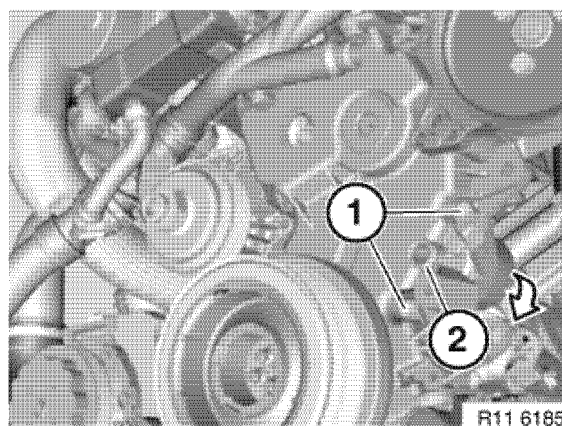

Figure 11-5
9. Remove bolts. Remove tensioner spring assembly (1, **Figure 11-5**) in direction of arrow.
10. Installation is done in reverse of removal. Install new seal (2, **Figure 11-5**).